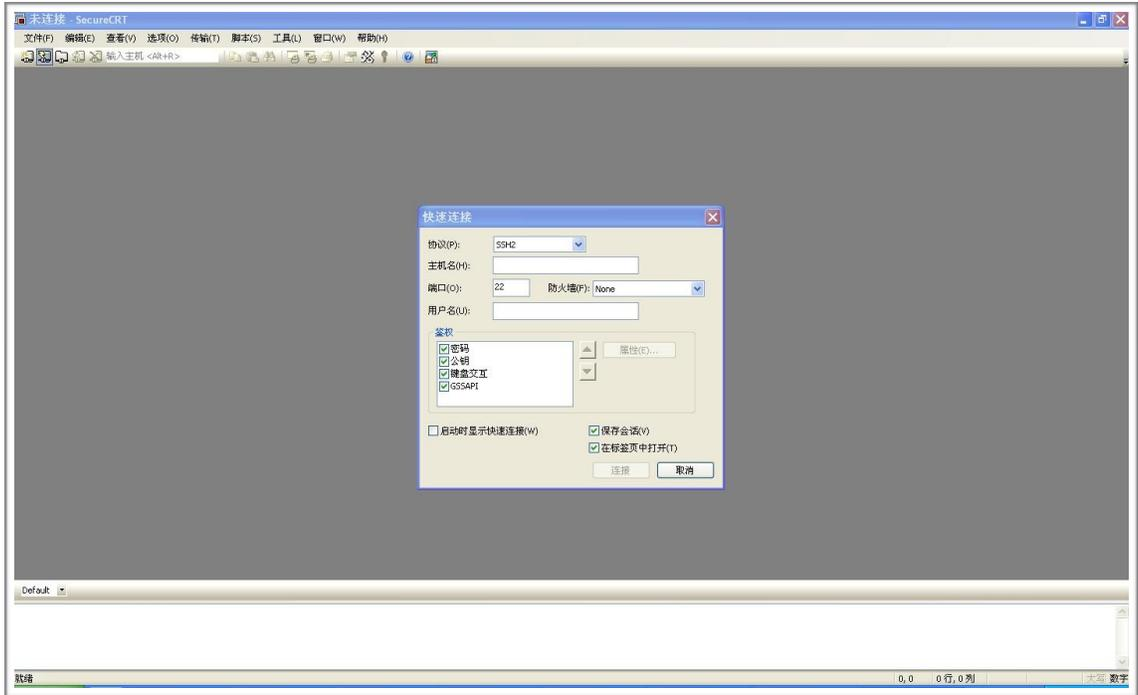

Figure 3-2. "Quick Connection" Pop-up Box
2. Select "**File > Quick Connection...**" option or directly click  button. A "**Quick Connection**" pop-up box will show as figure 3-2.